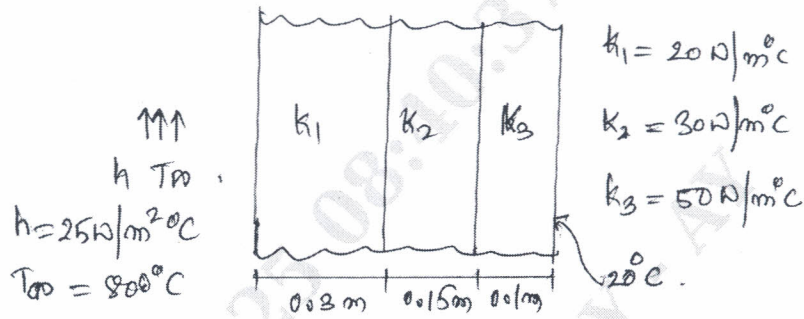

Fig.Q.7(b)
b. Determine the temperature distribution in a composite wall, as shown in Fig.Q.7(b), using 1 D formulation. (14 Marks)